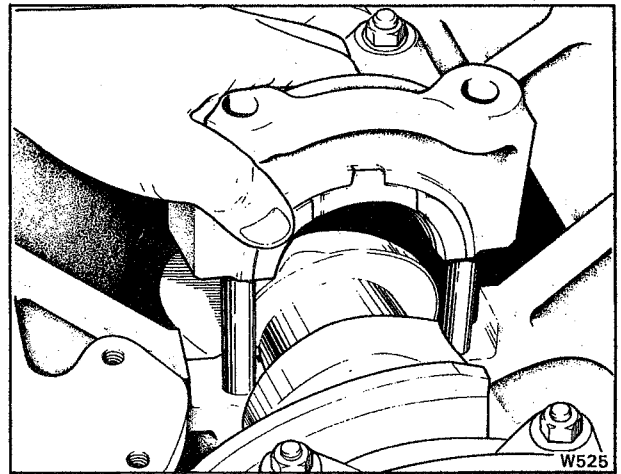

Fig. E11 Fitting the centre main bearing cap
5. Fit the main bearing caps and shells together with the two lower thrust washers for the centre main bearing (see Fig. E11). When fitting the bearing caps it may be necessary to tap them lightly into position. If this is done ensure that the bearing shells are not dislodged. The cap nuts should be torque tightened to the figure quoted in Chapter P.